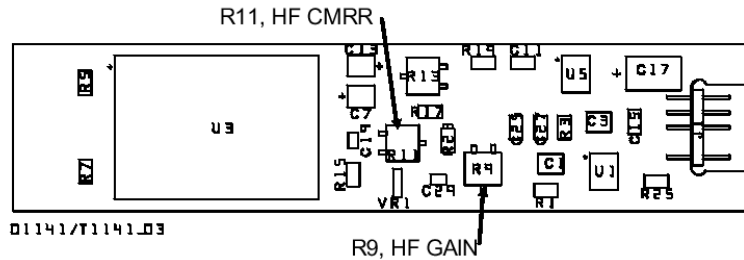

Figure 25 R11, HF CMRR Adjustment
- 17 Center adjustment R11, HF CMRR, as shown in Figure 25 on page 48.